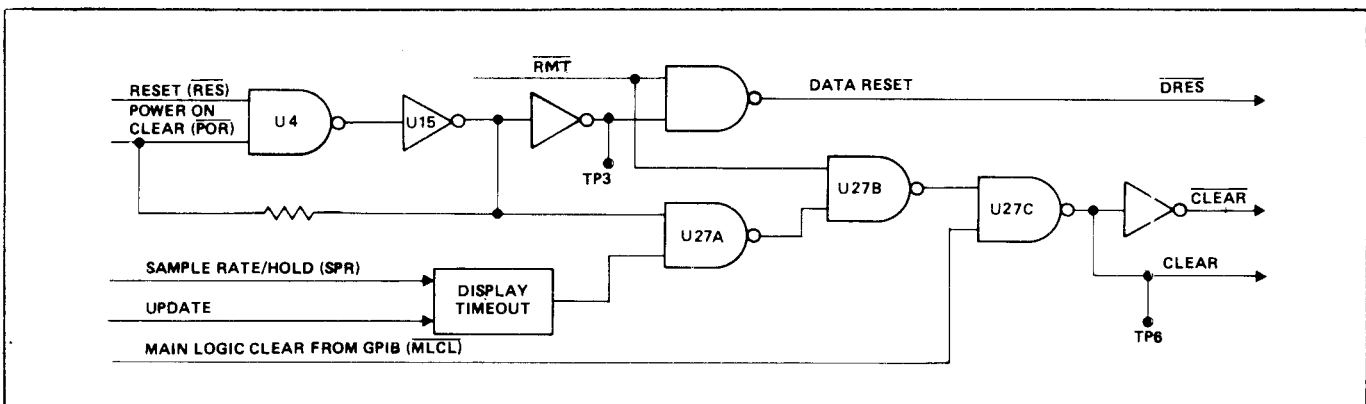

Figure 1.28 - Reset Logic Simplified Diagram
1.4.15.1 The reset logic initializes conditions in the counter. A simplified logic diagram of the reset logic is shown in figure 1.28. The reset logic generates the CLEAR signal to clear the accumulator, generates the DRES signal to load zeros into the display, and sets all nines in the time base counter. The RESET signal has three sources: